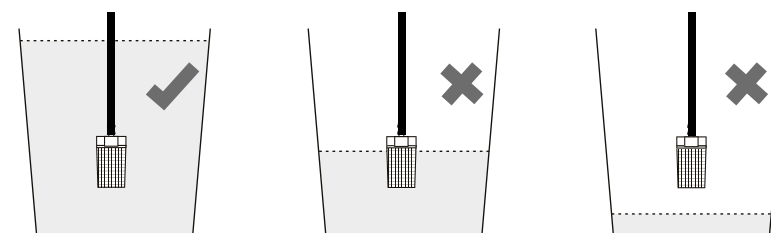

Figure 8
- 1) If the **ALARM** indicator flashes **Red**, fill the reservoir (Referring to **Figure 8**).